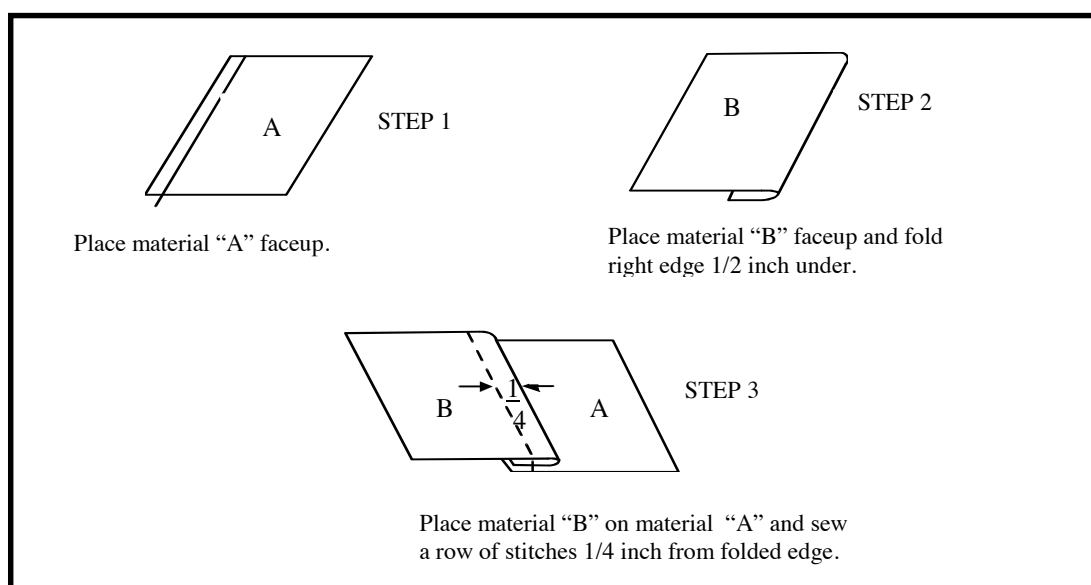

Figure 3-10. Seam type 2
c. Seam Type 2. Seam type 2 (Figure 3-10) is a lapped seam. It is used to sew a patch-type pocket on shirts, jackets, and coats. This seam is also used to sew plackets on shirt sleeves and to attach a zipper on the left side of a fly front. To make seam type 2--
- (1) Cut an 8- by 8-inch piece of material into two pieces 4 inches by 8 inches.
- (2) Place the two pieces of the material on a table face up.